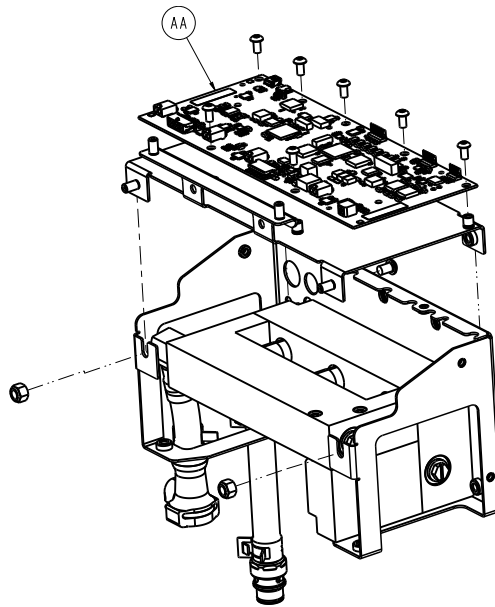

Figure 35 – Main control board
8. Disconnect the cable connections from the MCB (AA). The ten cable connections are labeled E, F, G, H, J, M, N, L, AG, and AH (Figure 35).